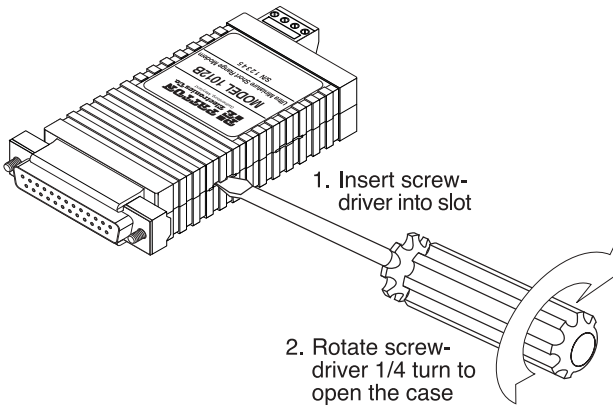

Figure 2. Using a small screwdriver to open the Model 1012B case
1. Using a small screwdriver, insert the tip into one of the slots in the side of the Model 1012B (see Figure 2).
2. Rotate the screwdriver as shown in Figure 2 to open the case.